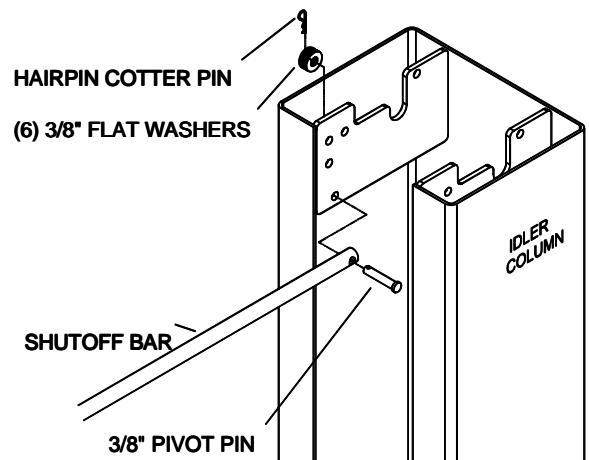

Fig 4b – Overhead Limit Switch Sub-Assembly
- 14) Insert shut-off bar in switch tube on power column side and take other end to idler side. Attach shut-off bar to idler column with (1) 3/8" pivot pin, (6) 3/8" flat washer and (1) hairpin cotter pin as shown in **Fig 4b**.